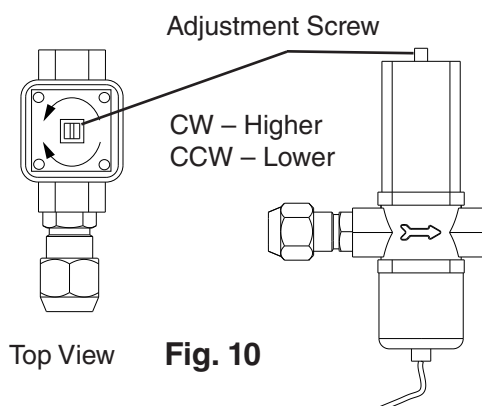

Fig. 10
- 2) 5 min. after a freeze cycle starts, confirm that the thermometer reads 104°F to 115°F (40°C to 46°C). If it does not, rotate the adjustment screw by using a flat blade screwdriver until the temperature is in the proper range. See Fig. 10. Next, check that the reference pressure is in the range indicated in the Head Pressure table in the Performance Data section. If it is not in the proper range, verify the refrigerant charge.